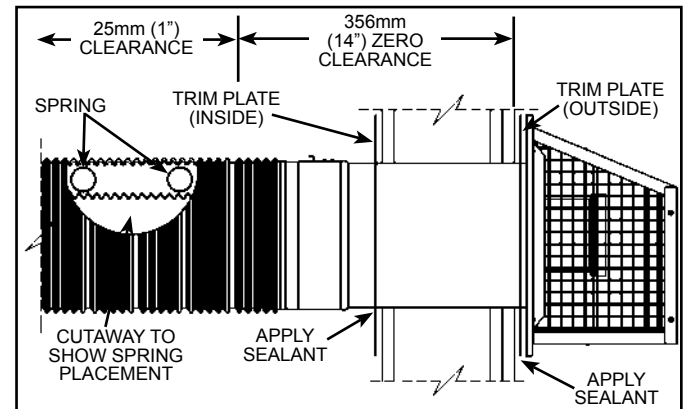

Figure 20
Cut a clearance hole, approximately 178mm (7") in diameter, through the exterior wall for the vent assembly. The recommended height is 1.62m (64") for 151l (40 gal.) models, 1.85m (73") for 189l (50 gal.) models and 1.88m (74") for 189l (50 gal.) Hi-Input models, as measured from the hole center to bottom of water heater. Where the wall is combustible and the wall thickness is over 356mm (14"), 25mm (1") clearance to combustible surfaces around the vent terminal is needed. The first 356mm (14") is zero clearance (see Figure 20).
Maintain vent clearances to combustibles as shown in Figure 20.
Some models are supplied with trim plates which may be used to cover the holes in the wall (see Figure 1 and Figure 20). Slide one trim plate (if supplied) over the outer corrugated tube, then insert the outer corrugated tube through the clearance hole from exterior wall. Secure the trim plate to the exterior wall, then secure the vent terminal to the exterior wall with 4 screw anchors (included) appropriate for the type of wall construction. Caulk the
3. Minimum vent pipe clearance to combustibles is 25mm (1") (see Figure 20).